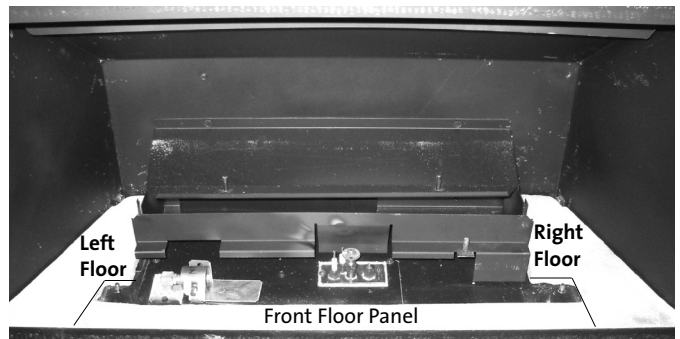

Figure 23. Base panel locations.
4. Set the Floor panels into place in the firebox, being careful to avoid chipping the edges. See fig. 23